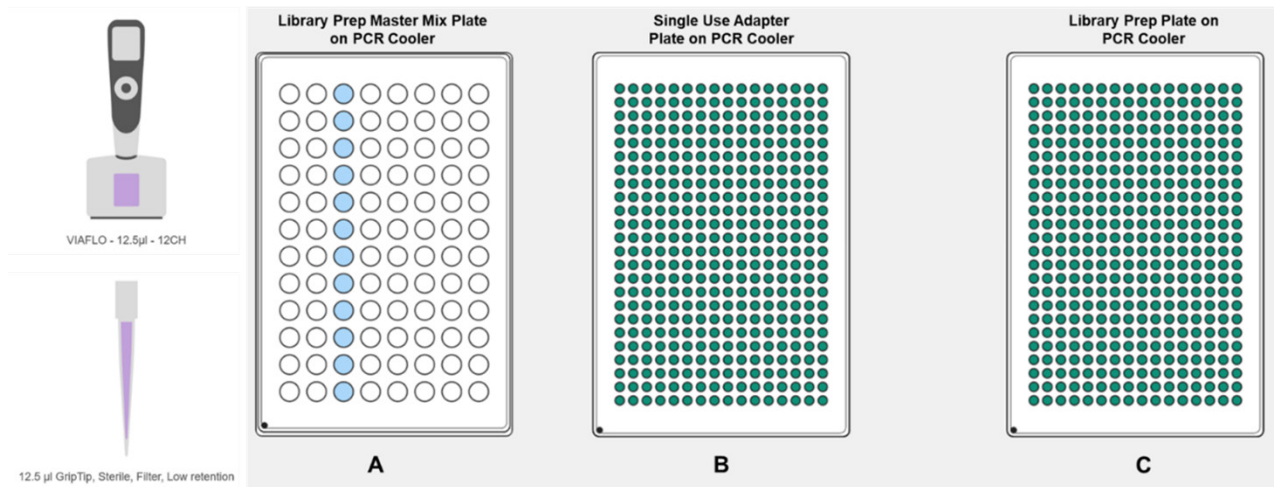

Figure 25: Figure 28. RO384_11_AdpLig.
- Place the cold 96-well and 384-well PCR cooling blocks onto the ASSIST PLUS deck at Positions A, B, and C (Figure 25).
- Place the Library Prep Master Mix Plate on the 96-well PCR cooling block in Position A, the Single Use Adapter Plate on the 384-well PCR cooling block in Position B, and the Library Prep plate on the 384-well PCR cooling block in Position C with position A1 of all three plates in the bottom left corner, as indicated by the dot in Figure 25.